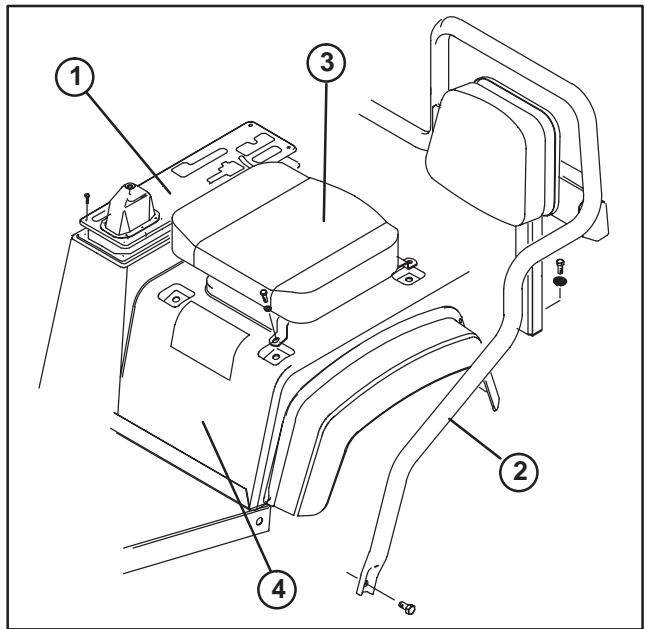

Figure 6
13. Remove (6) screws securing outside edge of center console cover plate to frame and remove cover plate (Fig. 6).
14. Loosen (2) capscrews and locknuts securing front legs of seat frame to sides of vehicle floor (Fig. 6).
15. Remove (2) capscrews and lockwashers securing seat frame brackets to vehicle frame (Fig. 6). Pivot seat frame forward.
17. Remove (4) capscrews and lockwashers securing each set of seat brackets to vehicle frame and remove seat assemblies (Fig. 6). Lift off skirt and fender assembly.